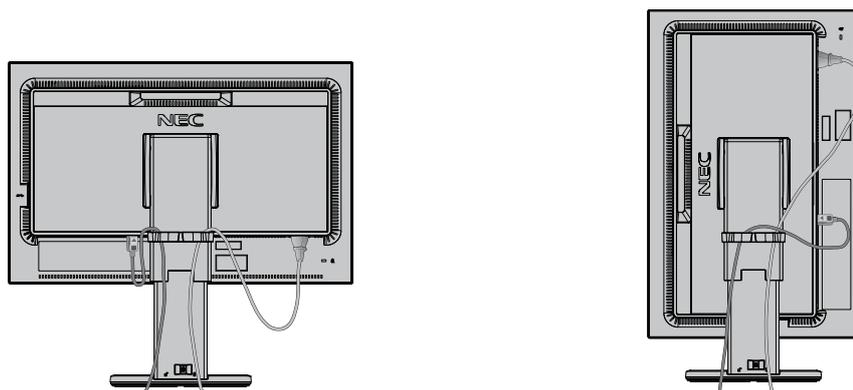

Figure D.1
- 7. Connect one end of the power cord to the AC inlet on the back of the monitor and the other end to the power outlet (Figure D.1).